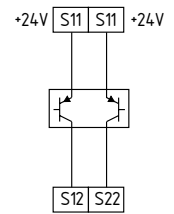

Fig. 11
**Dual-channel control of a safety-related (microprocessor-based) safety guards with p-type transistor outputs (e.g. electronic safety sensors or AOPD's) to EN IEC 61496-1 (Fig. 11)**